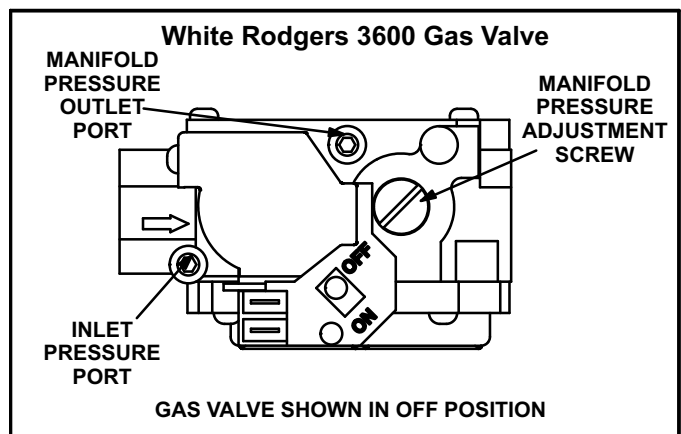

FIGURE 27
- 6 - Move lever on gas valve to **OFF**. See figure 27.
- 8 - Move lever on gas valve to **ON**. See figure 27.
- 4 - Move lever on gas valve to **OFF**. See figure 27.